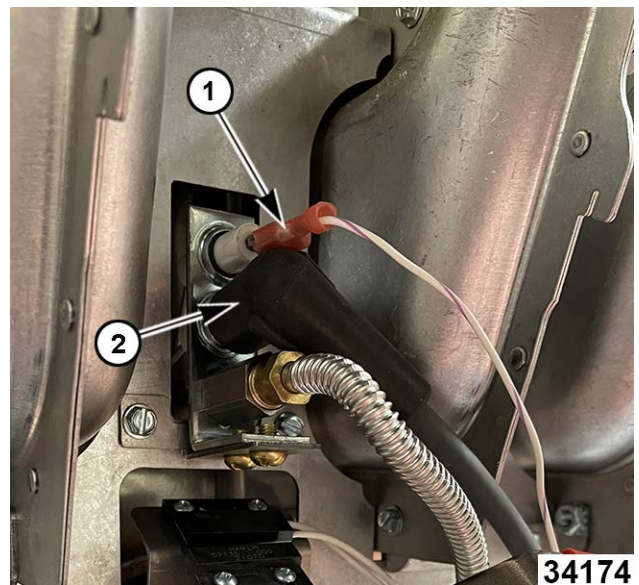

Fig. 41
1. Disconnect flame sense wire (1, Fig. 41).
2. Disconnect electrode cable (2, Fig. 41).